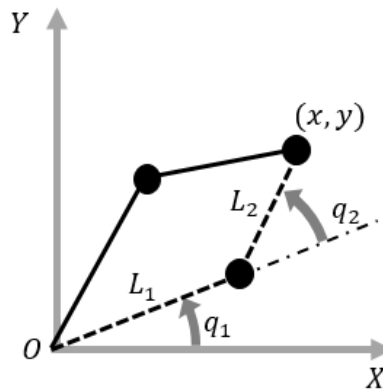

Figure 2: The kinematics of two-link manipulator. **Note that in the configuration shown, q_1 and q_2 have positive values.**
In this section, you will be implementing the forward kinematics (FK) of the two-link manipulator. The two-link manipulator is shown in Figure 2, in which we define the length of two links (L_1, L_2) in meters, and joint positions (q_1, q_2) in rad, and target endpoint position (x, y) in meters. **Both q_1 and q_2 are defined as positive about the Z axis (out of the page).** The goal is to compute the endpoint position when the joint positions are given and we will compare the computed (true) endpoint position with the actual endpoint position.